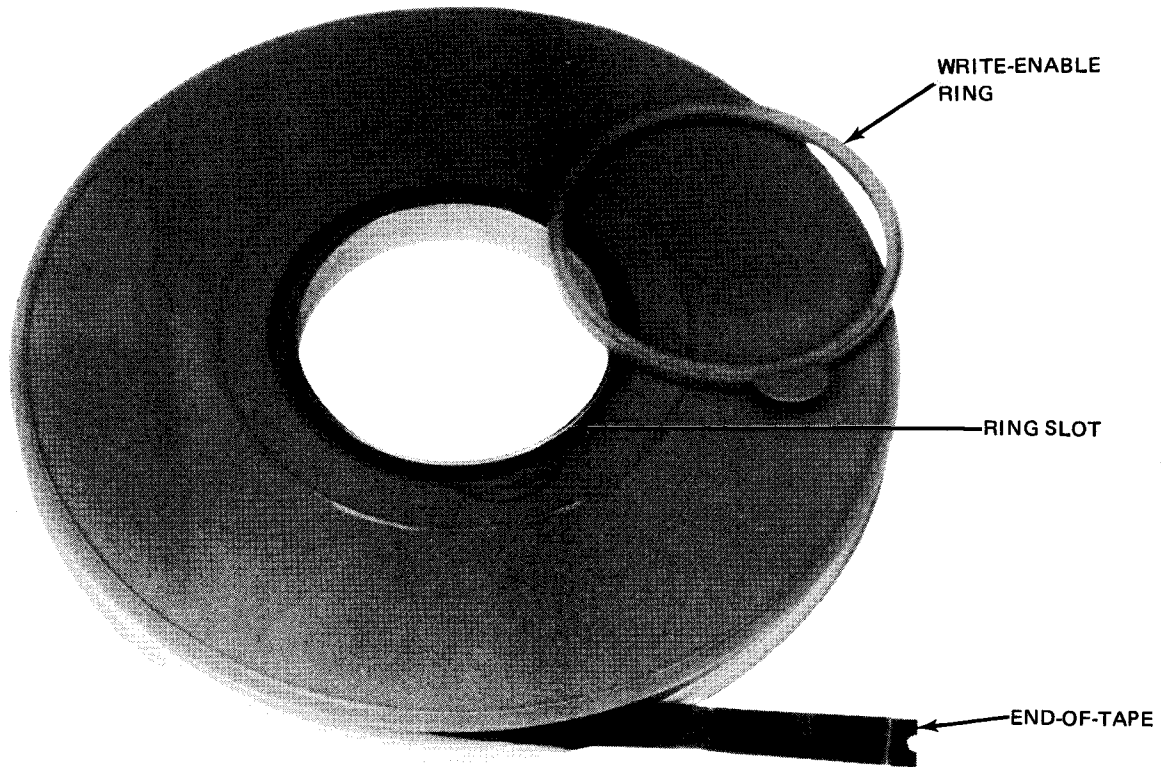

Figure 4—34. Tape Reel and Write-Enable Ring
3. Mount the reel on the supply-reel hub so that the leading end of tape is toward the right (Figure 4—35a). Press on core of reel to lock in place.